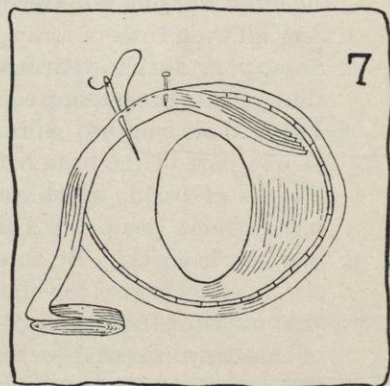

FIG. 7.
- c. Buttonhole a lace wire just inside the edge (see Figure 7) and cover the wire with a circular ribbon flange (see Job 19 or 20, page 79 or 83).
- (1) Sew the flange in place.
- (b) With 6 inches of braid left hanging, pin the finished edge of one five-row strip of braid, 1 inch to the left of direct back, and in the facing in which you desire to sew the flange (see Figure 7).
- (c) Thread a very fine needle with fine thread and sew with invisible running stitches, going right through both the finished edge on the top facing and the finished edge on the under facing (see Figure 7).